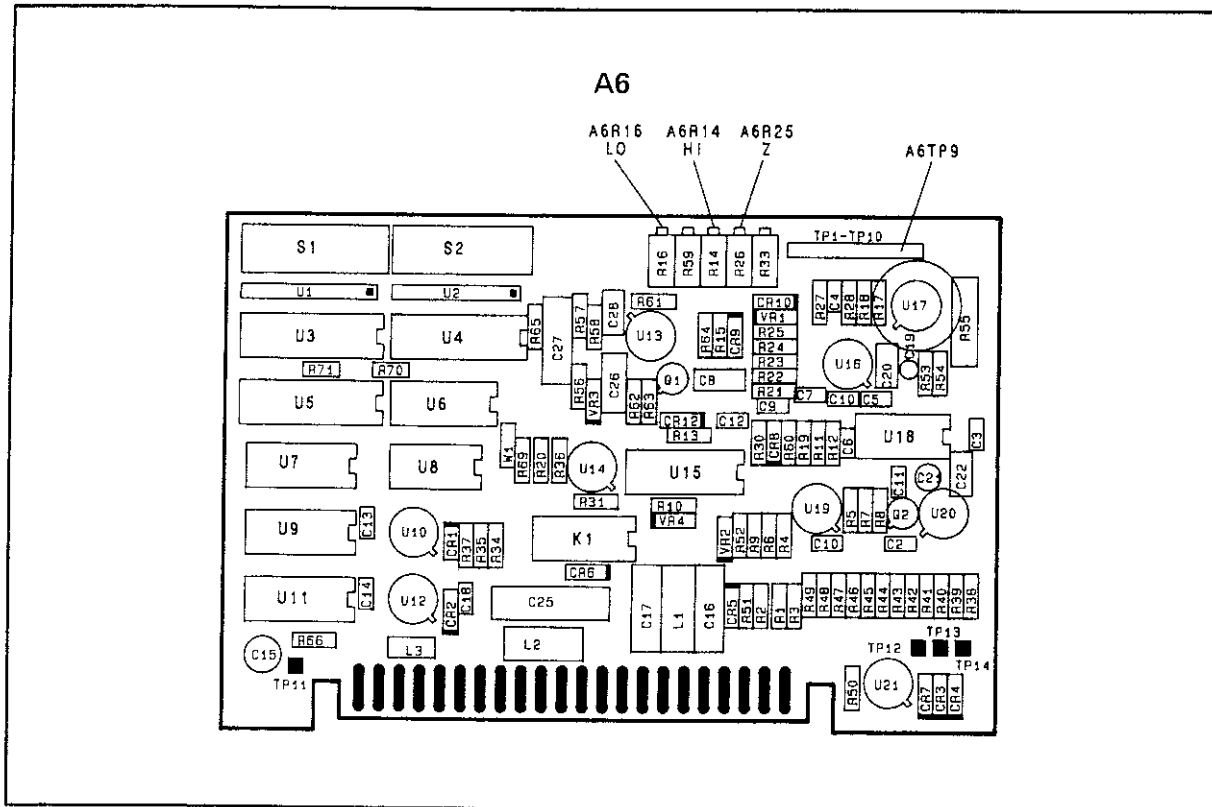

Figure 5-9. Delay Compensation Adjustment Location
4. Adjust “Z” control, A6R26, (Figure 5-9) for the same reading at A6TP9 that was obtained in step 2 above. Iterate steps 2, 3, and 4 until the voltage at A6TP9 is the same for both conditions.
11. Adjust “LO” control A6R16 (Figure 5-9) to minimize the movement between markers while stepping the sweep time between 1 second and 10 milliseconds.
12. Verify that the delay is accurate by manually adjusting the sweep time from 10 milliseconds to 1 second. Reset A6R16 (LO) as necessary to provide the best overall delay setting (minimum delay per change in sweep time). The position of the frequency meter pip should typically stay within ± 61 MHz as read on the frequency meter across the 10 millisecond to 1 second range.
16. Adjust “HI” control A6R14 (Figure 5-9) to minimize the movement between markers while stepping the sweep time between 1 second and 10 milliseconds.